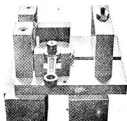

Fig. 4-16-13
2) Press the crank pin into one half of the crankshaft, install the crankshaft in the main jig (1), and install the connecting rod on the crankshaft. (Fig. 4-16-13)